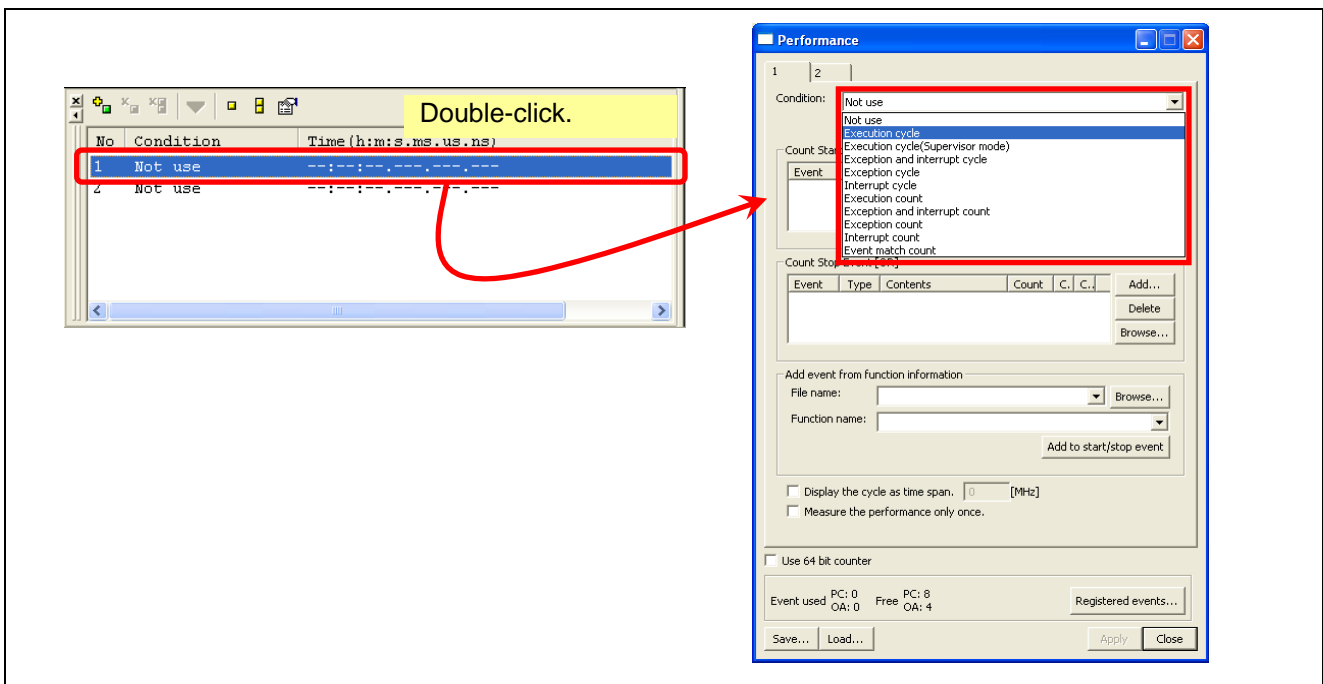

Figure 4.54 Opening the [Performance] Dialog Box
(2) As shown in Figure 4.54, select "[No.1] Not use" in the [Performance Analysis] window and double-click on it: the [Performance] dialog box will appear.
(3) The measurement items can be selected from the pull-down menu in the [Performance] dialog box.